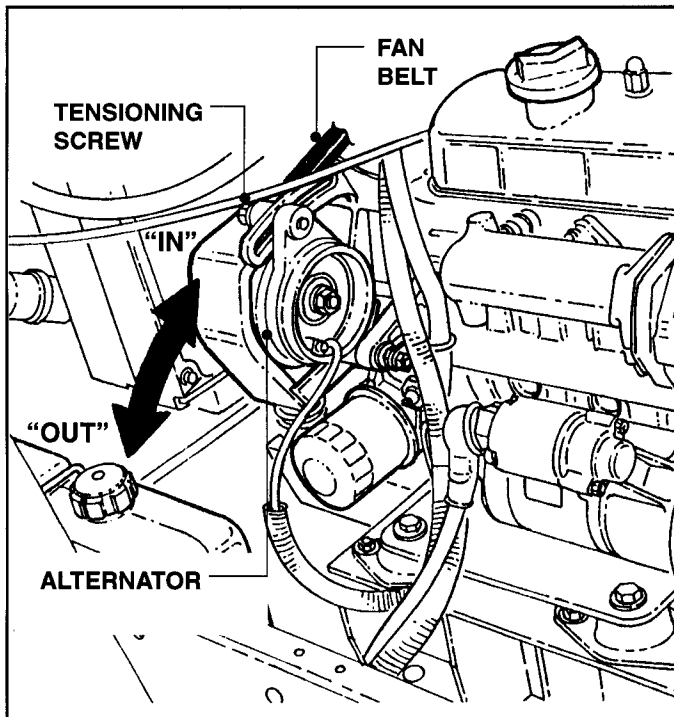

FIGURE 5.6
- To adjust Fan Belt tension, loosen Tensioning Screw at top of Alternator. See Figure 5.6. Move Alternator "IN" or "OUT" until Belt tension is correct. Retighten Tensioning Screws.
(See Page 5.4, refer to Figure 5.6).